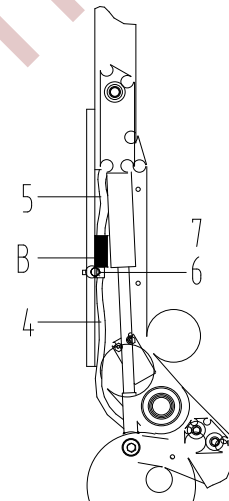

Figure 3
- ☐ As shown in Figure 3, connect the connectors of the truck body harness 4 and the handle harness 5 (pay attention to the alignment direction). As shown in B, fix the harness firmly with the wire clamp 6 and the screw 7.